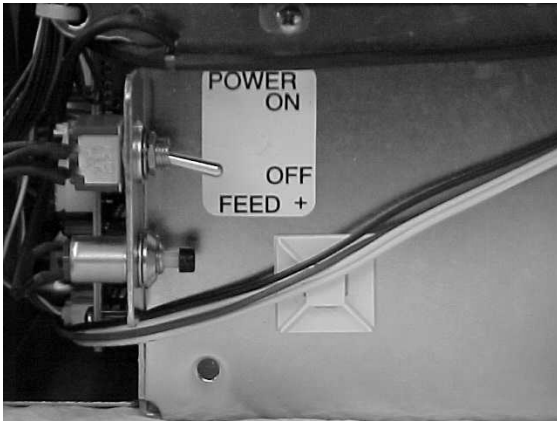

Figure 17
- Below are the items required for the printer. (See Fig. 17)